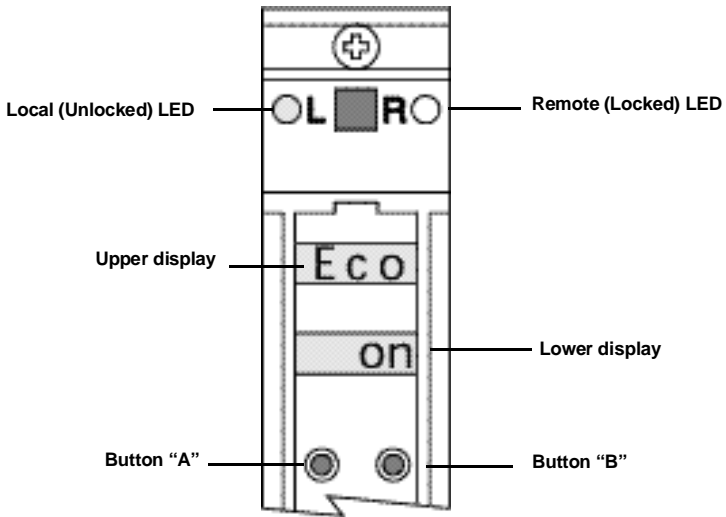

Figure 5-9. Control module in terminal echo mode menu.
2. Press the "A" button to cycle through the menus in the upper display. Select the "Eco" menu as shown in Figure 5-9.